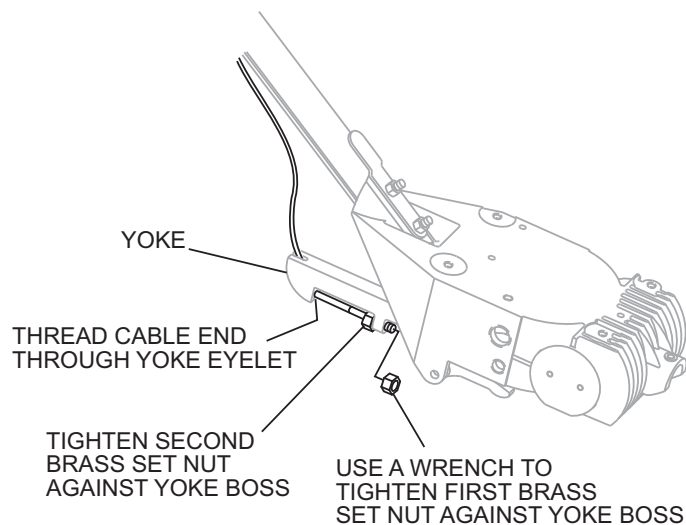

Figure 15. Cable Yoke Attachment
5. Insert the cable end through the yoke eyelet (Figure 15) Tighten the first brass set nut by hand to remove all the slack from the cable.